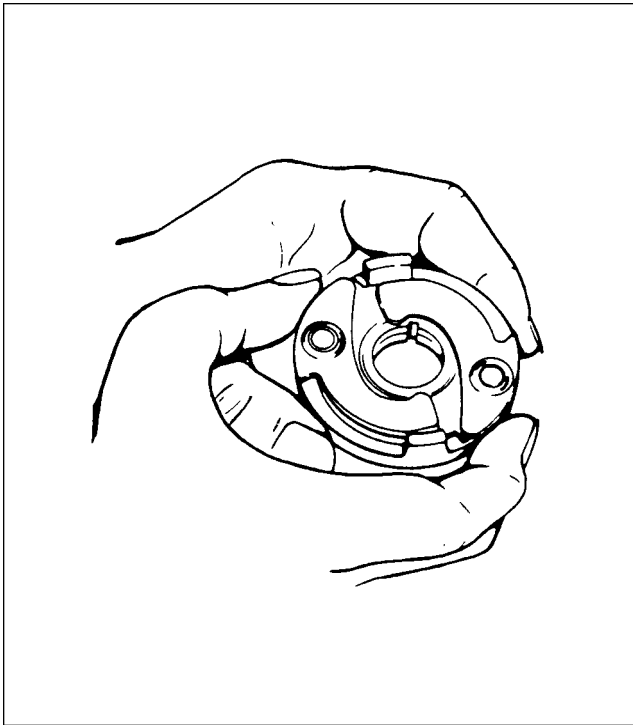

Figure 74-17. Checking Impulse Coupling
1. Check mating cam assembly and body for magnetization which would prevent flyweights from engaging. Hold assembly as shown in figure 74-17 and push upper flyweight against body. When released, flyweight must drop down. If flyweight sticks to body, parts are magnetized and coupling may not function. Perform test on both flyweights.